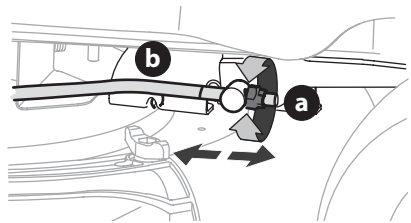

Figure 29
3. Locate the flange lock nut (a) on the front end of the PTO lift rod (b) (Figure 29).